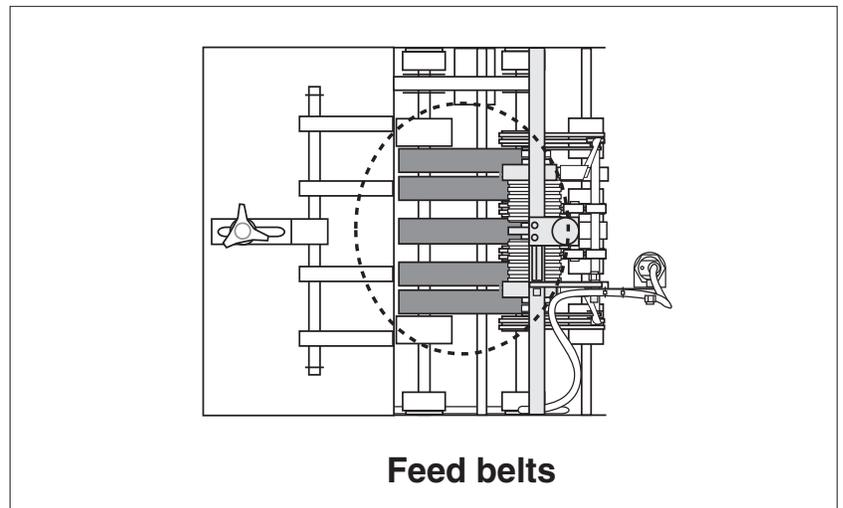

Figure 42. Cleaning Feed Belts
3. Use your thumb or finger on the drive belt or one of the feed rollers to manually move feed belts. Start with one belt at a time (there are five total). See Figure 42.